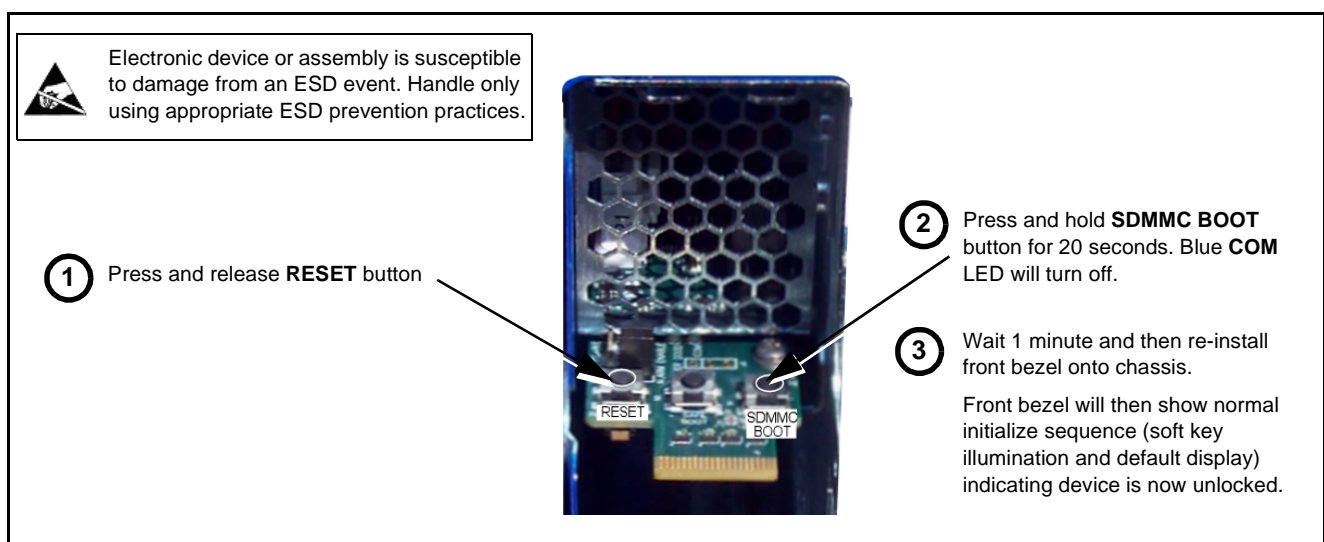

Figure 2-11 BBG-1300-FR Reset Sequence
4. Perform the reset sequence shown in Figure 2-11.